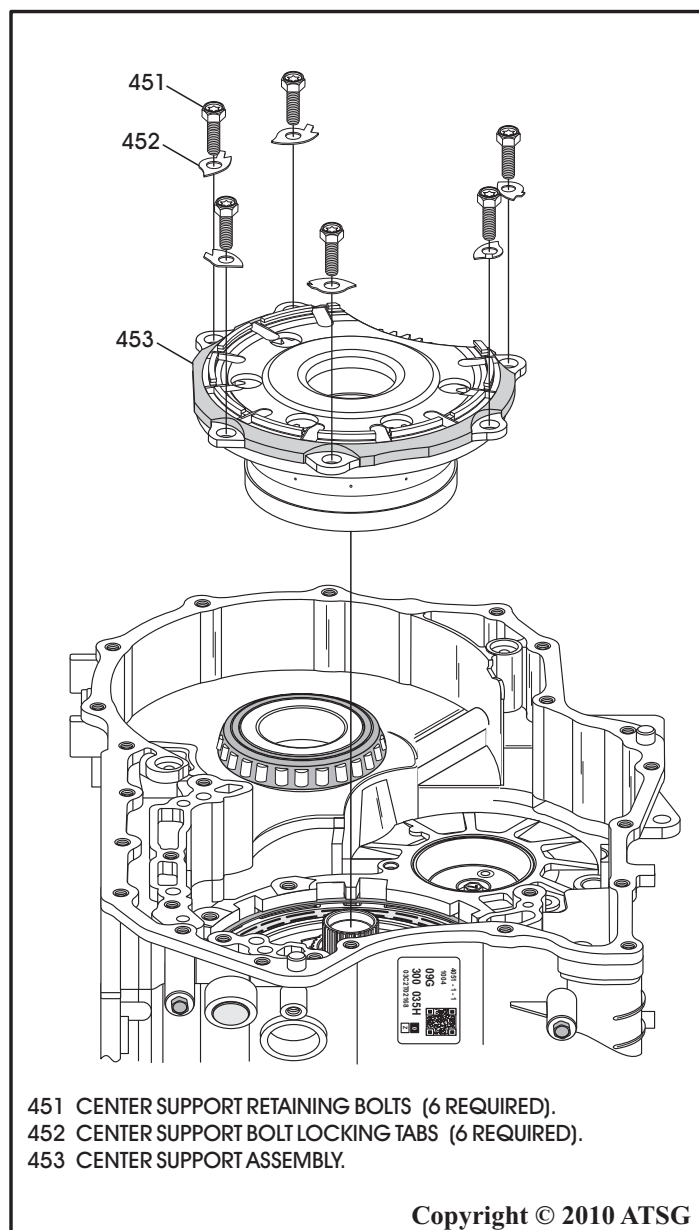

Figure 81
60. Remove the six center support retaining bolts, as shown in Figure 81, using a T-50 Torx bit or a 14mm socket.
61. Remove the center support assembly from the transaxle, as shown in Figure 81, and set the assembly aside for component rebuild.